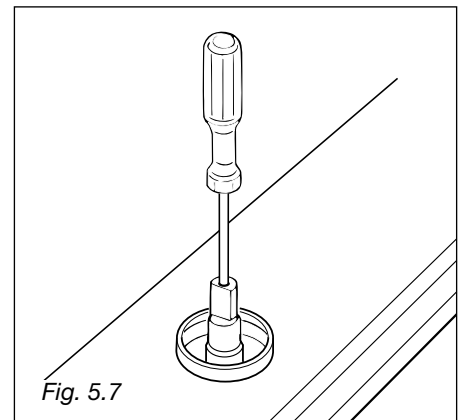

Fig. 5.7
**On gas valves provided with adjustment screw in the centre of the shaft (fig. 5.7):**